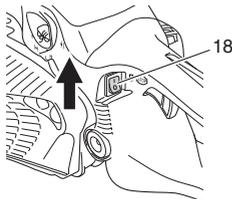

Fig. 15
2. Set stop switch (18) to ON position. (Fig. 15)